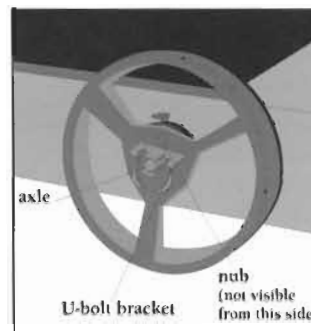

Figure 3
4. Slide the flywheel onto the axle. The flat side of the flywheel should be toward the base, with the nub in the "one o'clock" position (Figure 3).
IMPORTANT: Do not slide the flywheel beyond the point at which the end of the axle is even with the end of the flywheel (Figure 3). The flat side of the flywheel should be very close to, but not touching, the electronic sensor. There should be approximately 1/16-inch between the flywheel and the electronic sensor.